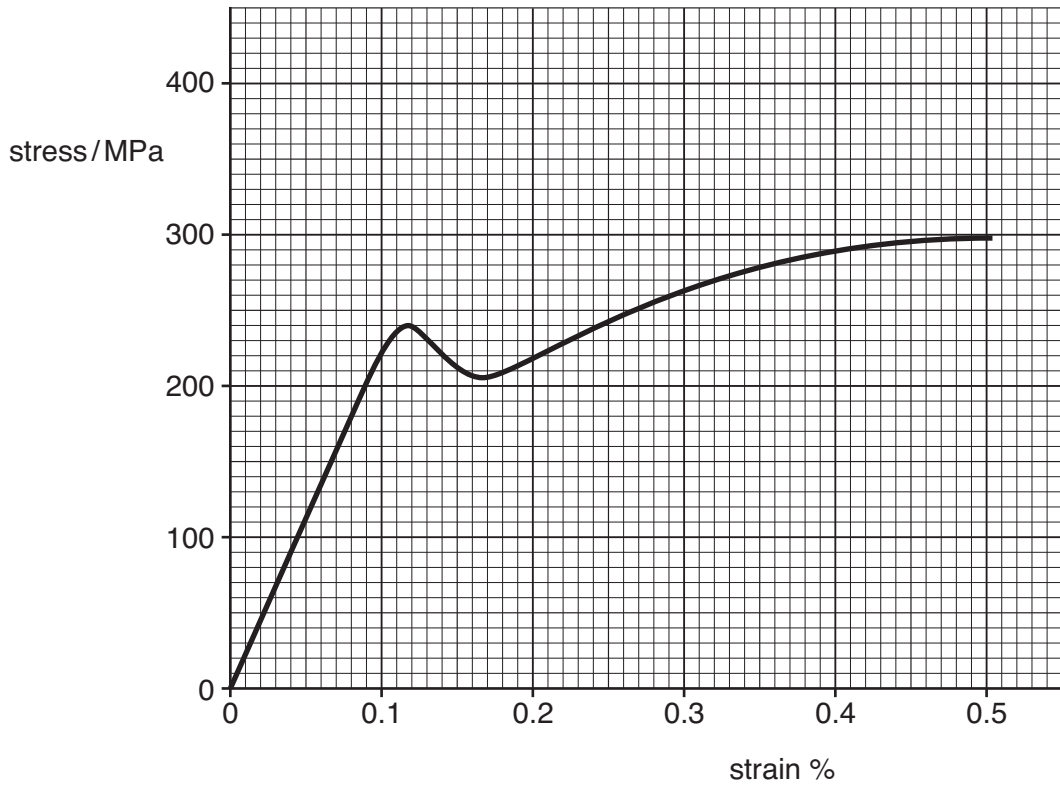

Fig. 8.1
- 8** Fig. 8.1 shows part of the stress against strain graph for mild steel, up to a strain of 0.5%, obtained from a tensile testing machine.